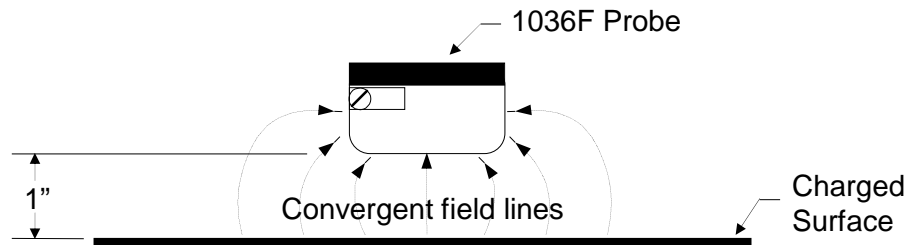

Figure 6: Field Lines Converging to 1036F Probe
- Improve the geometry by establishing a grounded plane (shroud) through which the fieldmeter probe can view the field under consideration. Refer to figure 6 on page 9. (see also Application Note –0003 in Appendix.)